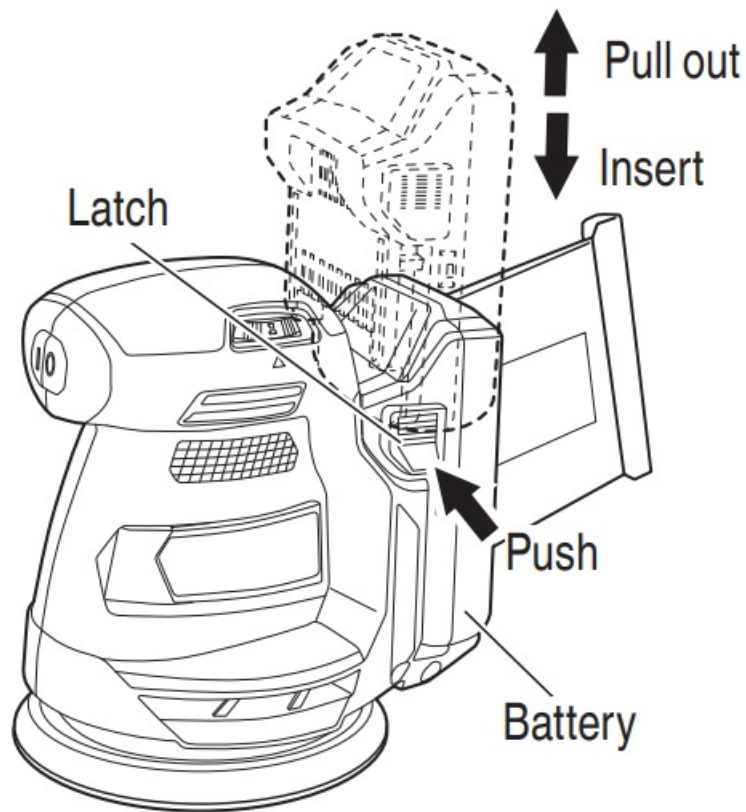

Fig. 5
- How to install the battery. Align the battery with the groove in the tool and slip it into place. Always insert it all the way until it locks in place with a little click, If not, it may accidentally fall out of the tool, causing injury to you or someone around you (Fig. 5).
- How to remove the battery. Withdraw the battery from the tool while pressing the latch (2 pcs) of the battery (Fig. 5).